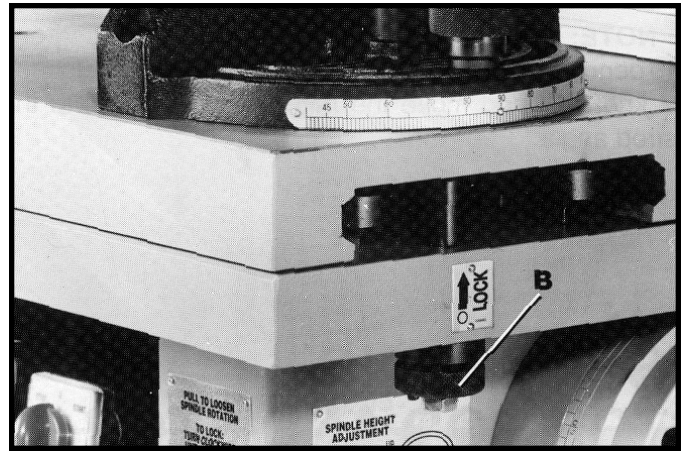

Fig. 53
2. To lock the sliding table, preventing it from moving, simply rotate knob (B) Fig. 53, until knob (B) moves to the up position and the pin on the other end of the knob engages a hole underneath the table.